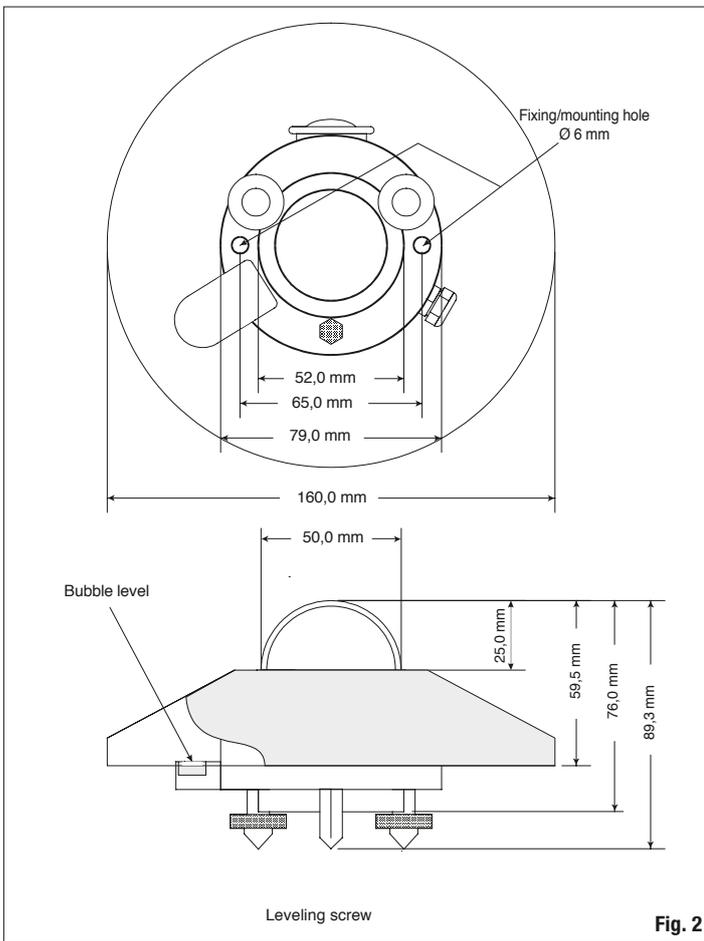

Fig. 2
- The LP UVA 02 radiometer is provided with a spirit level for carrying out an accurate horizontal leveling. The adjustment is made by means of two leveling screws that allow to adjust the radiometer inclination. Use the two 6mm-diameter holes and a 65mm interaxial distance to mount the instrument on a plane. Remove the shade disk to access the holes and reposition it after mounting (see fig. 2).
Dimensions:	figure 2